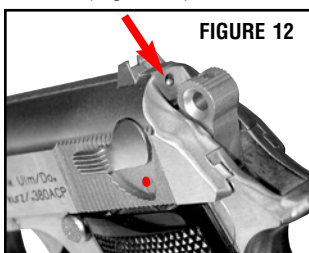
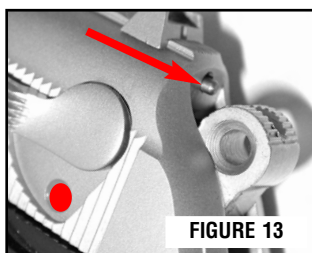

FIGURE 12
FIGURE 13
- Currently manufactured Walther PPK and PPK/S pistols come with a loaded chamber indicator. This indicator can be observed by looking at the rear of the slide just above the hammer (Figure 12) noting a small hole. If the firearm's chamber is loaded, you will observe a silver pin protruding from this hole. (Figure 13)